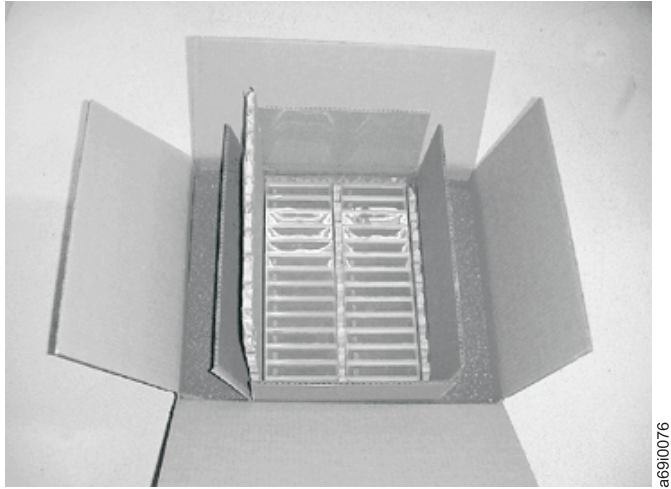

Figure 69. Double-boxing tape cartridges for shipping
- Double-box the cartridge (place it inside a box, then place that box inside the shipping box) and add padding between the two boxes (see Figure 69 on page 171).